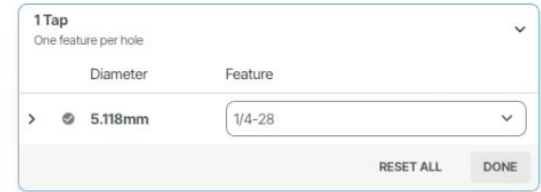

Figure 1.7
3. Select your desired thread type (e.g., 1/4-20, 10-32, M5×0.8) (see Figure 1.7).